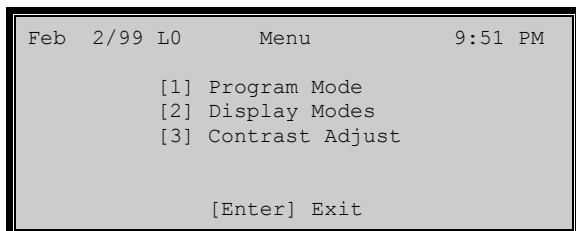

Figure 6–1
- (b) The MENU screen (Figure 6–1) will be displayed.